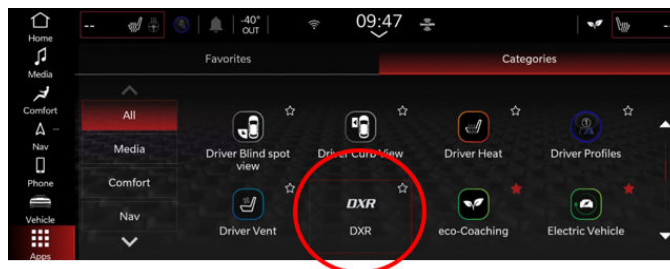

Fig. 10
22. ****Install a 12v battery charger and insert the USB flash drive into the DXR USB port Fig. 10.****